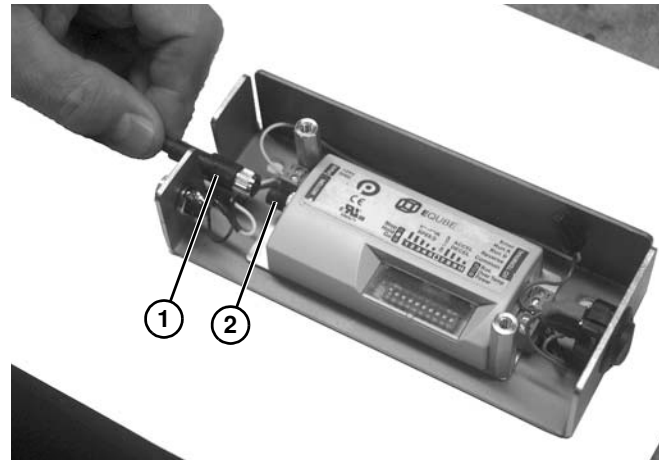

Figure 210
4. Disconnect end (Figure 210, item 1) of motor wiring from threaded end (Figure 210, item 2) on controller.